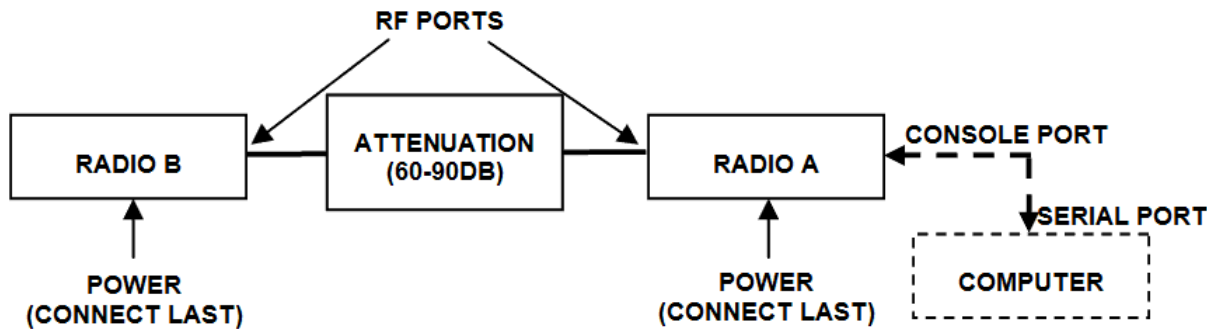

Figure 28 Basic back-to-back bench test configuration
- 1 Connect attenuation and (known-good) RF cable(s) between radio pair, shown in Figure 28.
Connect the system as shown in Figure 28, using the combination of fixed and variable attenuation between the radio's RF ports. Connect the volt meter to either radio's RSL test point and associated reference ground connection.